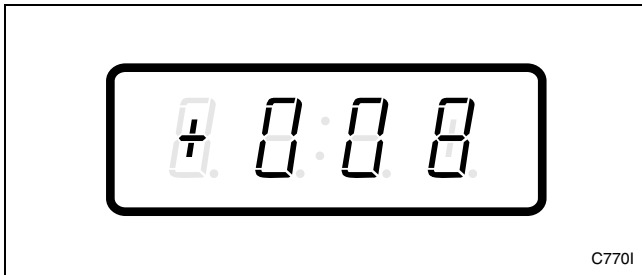

Figure 39
3. Press the DELICATES (+) or the COLD (-) keypad to scroll through the programmable options until “+008” appears in the VFD. Refer to *Figure 39*.